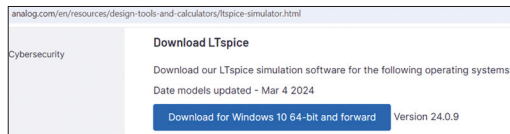

Figure 2.1 Click to download the installation file
- Scroll down and click on the Download link to download the installation file (Figure 2.1). At the time of writing this book, the installation file was named (for 64-bit PCs): **LTspice64.msi**